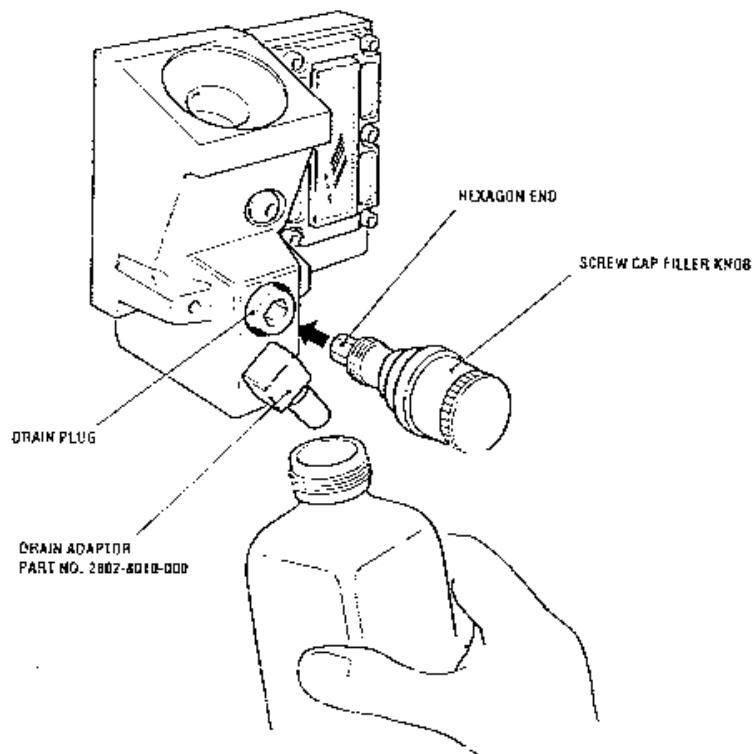

Fig. 6.1 Draining A Screw Cap Filler Vaporizer
2. Remove the screw cap filler knob and insert the hexagon end of the knob into the drain plug as illustrated in Fig. 6.1